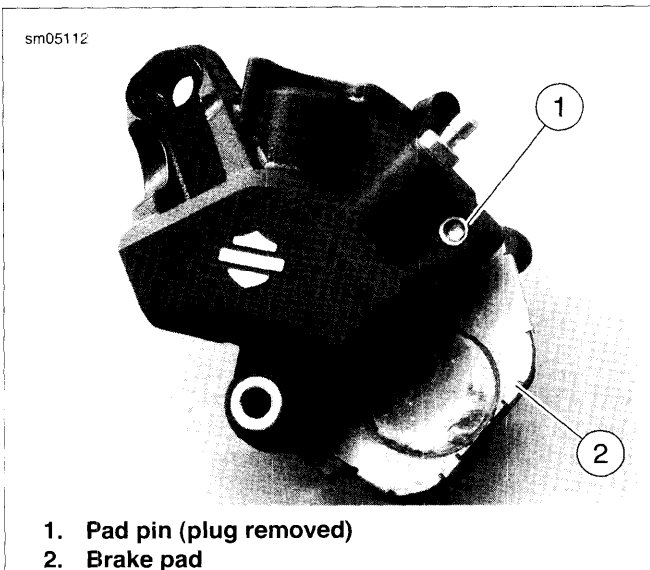

Figure 2-111. Pad Pin
1. See Figure 2-111. Remove brake pad pin plug to expose brake pad pin (1). Remove brake pad pin and pads (2).